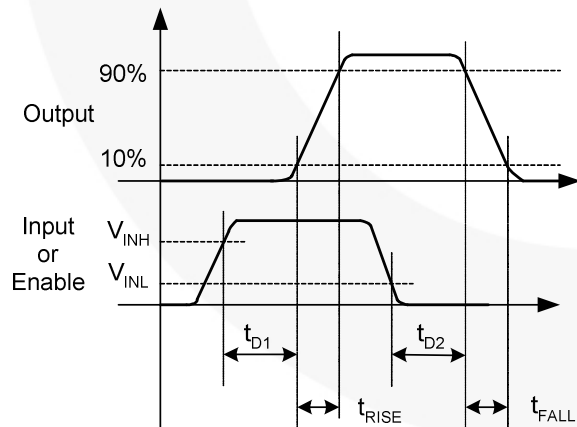
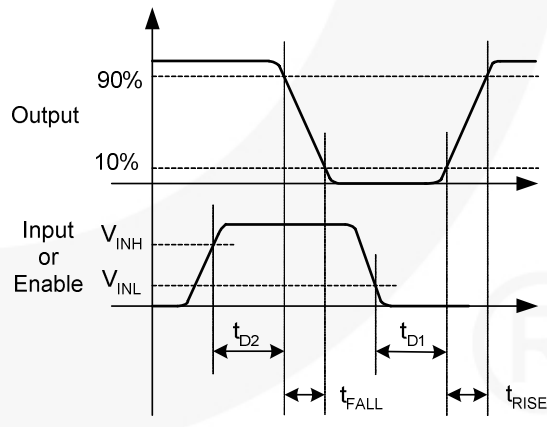

Figure 4. Non-Inverting
Figure 5. Inverting
- 10. See the Timing Diagrams of Figure 4 and Figure 5.